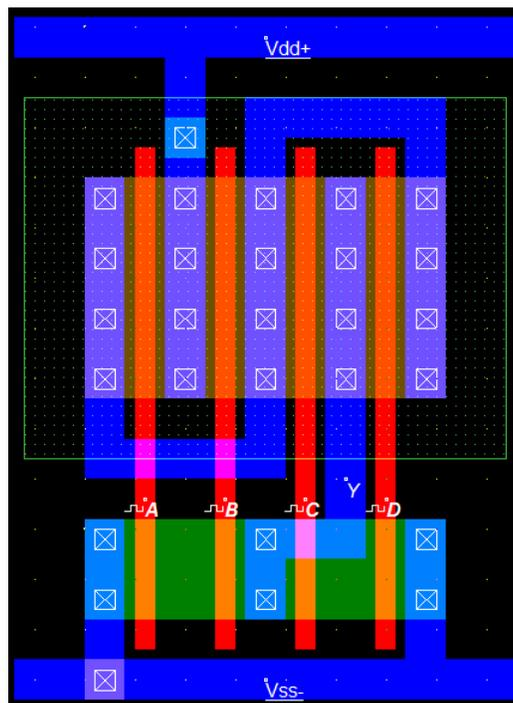

Figure 5
Then place appropriate input (clock) signals on polysilicon fingers, and VDD and GND on rails. Lastly, place a “Visible node” on output (Y) terminal. The final layout of CMOS AOI22 is depicted in Fig. 5 below.